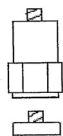
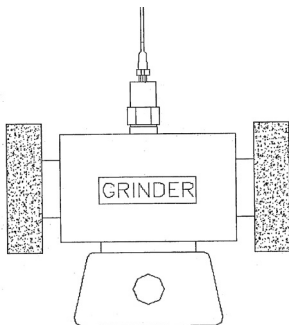

Fig 3
Fig 4
8. If the surface material of the item being measured is ferrous, connect the Vibration sensor with the Magnetic base (see Fig 3). Put the whole unit (Vibration sensor & Magnetic base) on the surface of the item being measured (refer to Fig. 4).